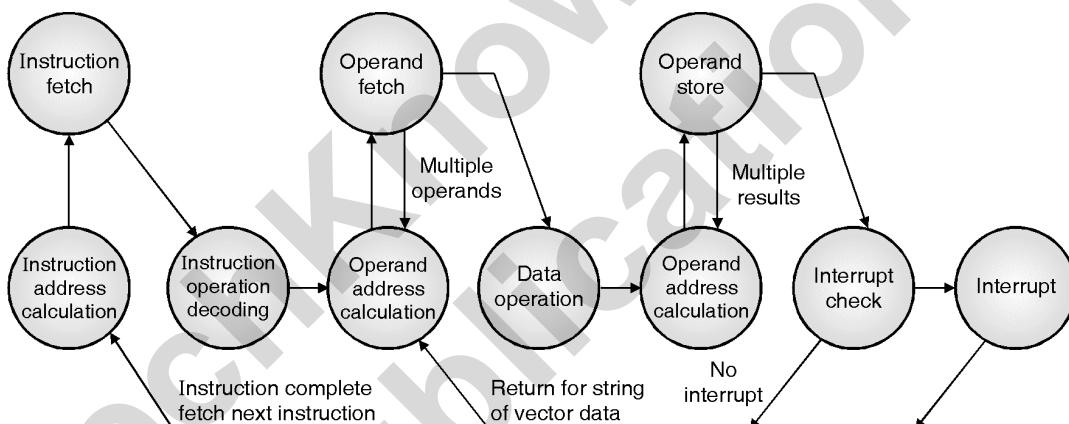

Fig. 9.4.3 : Detailed instruction cycle
- The detailed instruction cycle is shown in Fig. 9.4.3.
- In Fig. 9.4.3, there are some states drawn on the upper side, while some on the lower side.
- If there is none, then the next state as seen in the Fig. 9.4.3 is the calculation of next instruction address i.e. executes the next sequential instruction.
- In the Fig. 9.4.3, you will also notice that there are two paths from the end of the previous instruction.